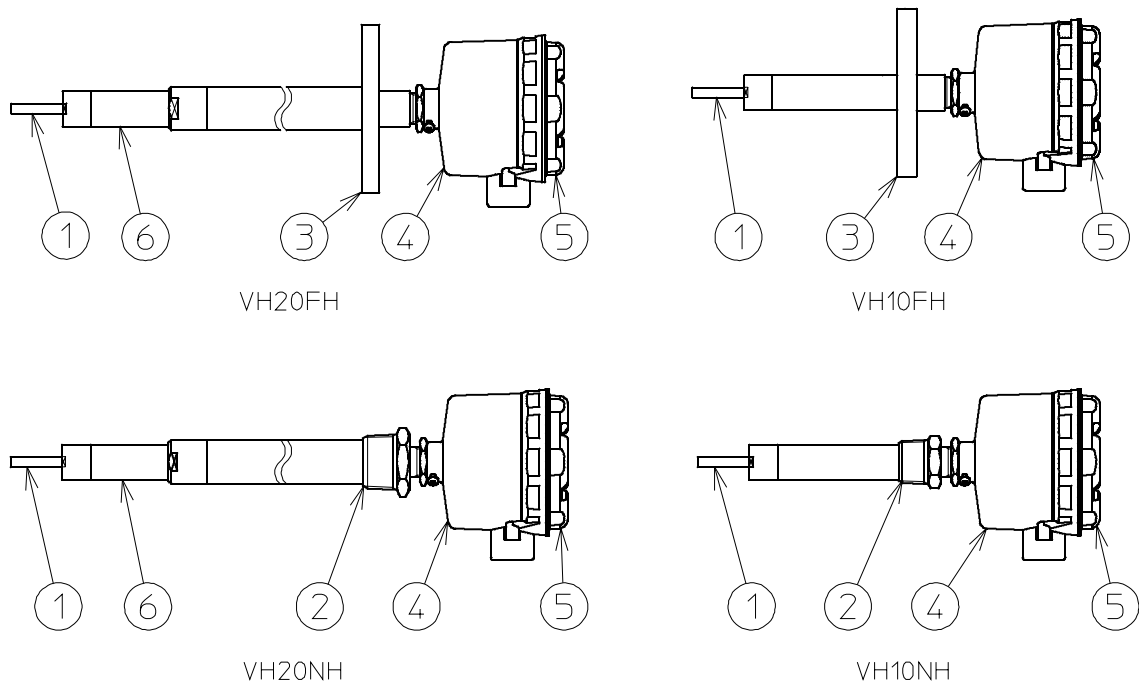

Fig. 3
4.1 EXTERNAL APPEARANCE (See Fig. 3)